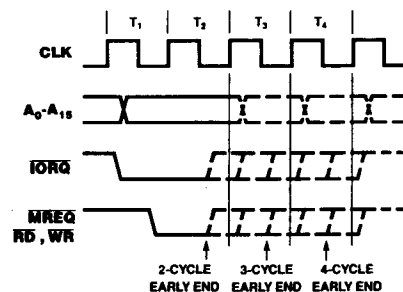

Figure 14. Variable-Cycle and Edge Timing
**Variable Cycle and Edge Timing.** The Z80 DMA's default operation-cycle length for the source (read) port and destination (write) port can be independently programmed. This variable-cycle feature allows read or write cycles consisting of two, three, or four T-cycles (more if Wait cycles are inserted), thereby increasing or decreasing the speed of all signals generated by the DMA. In addition, the trailing edges of the  $\overline{IORQ}$ ,  $\overline{MREQ}$ ,  $\overline{RD}$ , and  $\overline{WR}$  signals can be independently terminated one-half cycle early. Figure 14 illustrates this.